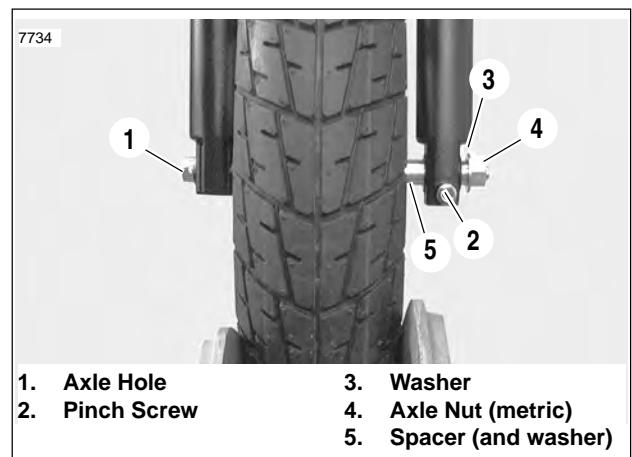

Figure 2-5. Front Wheel Mounting
5. See Figure 2-5. Insert screwdriver/rod through axle hole (1). Loosen front axle nut (4).
6. Loosen pinch screw (2).